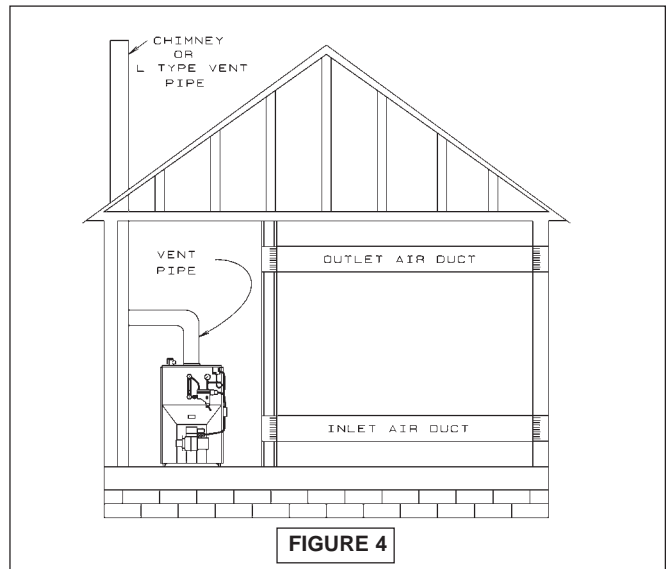

FIGURE 4
C. If horizontal ducts are used, each opening shall have a minimum free area 1 square inch per 2,000 BTU per hour total input rating of all appliances in the enclosed space. (Figure 4)